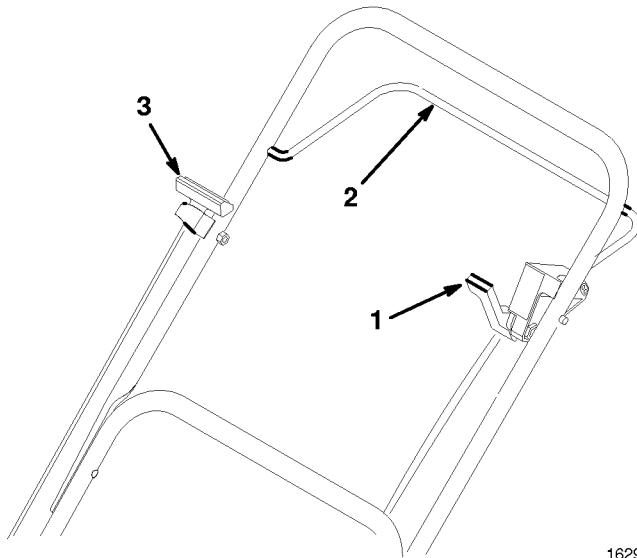
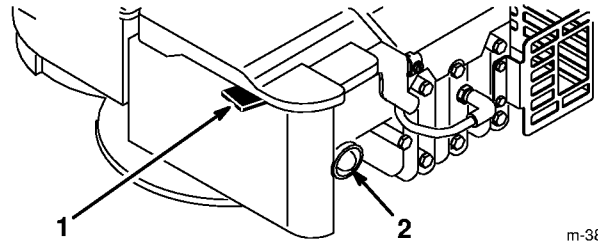

Figure 5
Figure 6
Traction control lever (self-propelled model), control bar and recoil starter are on upper handle (Fig. 5). Throttle control lever is on engine (Fig. 6).
1. Move throttle lever to  FAST position (Fig. 6).
3. Push primer three (3) times (Fig. 6). **Wait about two (2) seconds between each push.**